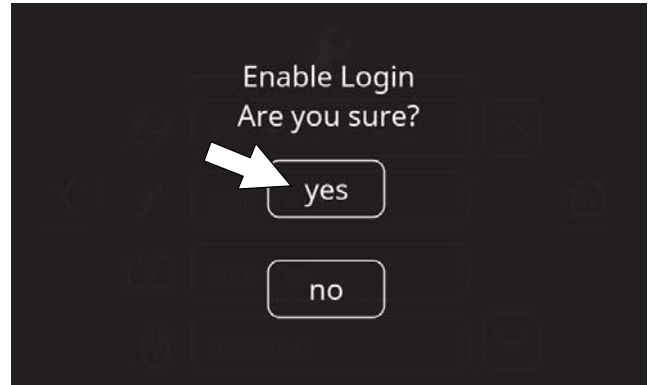

FIG. 169
5. Press the yes button to enable login (Figure 169).